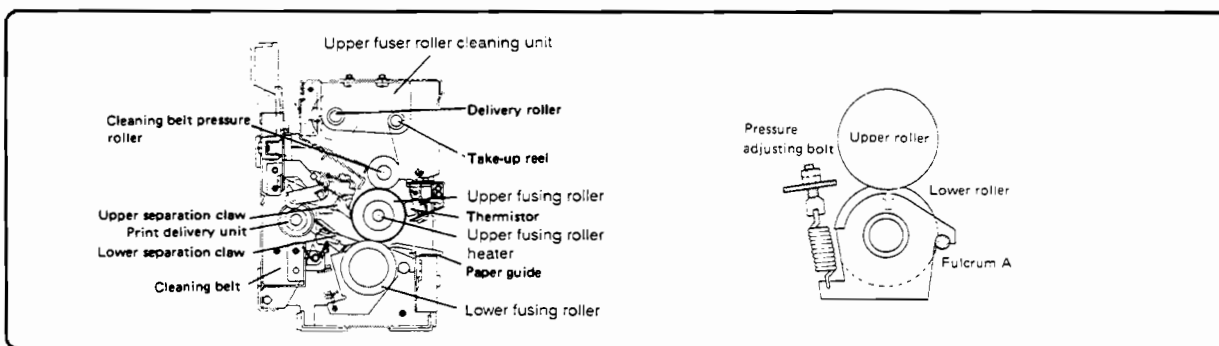

Figure 6-76. Nip Width Adjustment
8. Measure the width (nip width) of the glossy toner surface (Figure 6-76). The nip width is normal if the measurements at the middle and ends are the same as Table 6-4.
9. If the measurement is outside the specifications adjust the nuts of the pressure adjusting bolt (Figure 6-76).